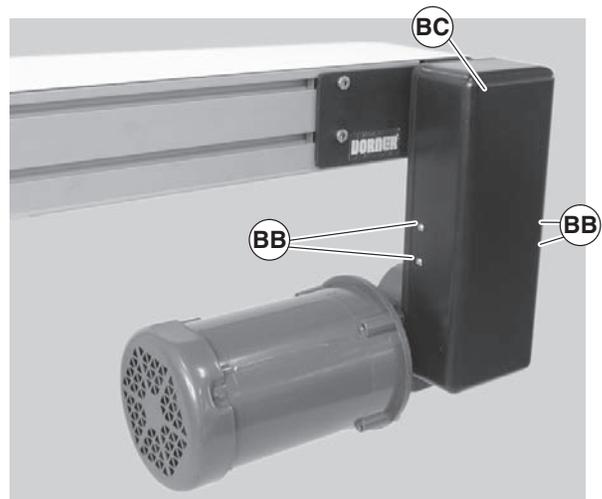

Figure 41
- Remove four (4) screws (Figure 41, item BB) and remove cover (BC).